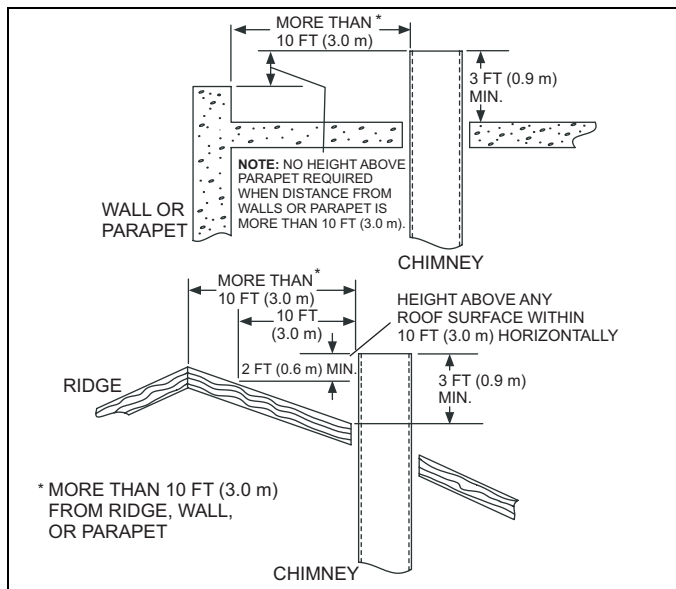

FIGURE 19: Vent Termination more than 10 ft. (3.0 m)
3. The chimney must extend at least 3 ft (0.91 cm) above the highest point where it passes through a roof of a building and at least two feet higher than any portion of the building with a horizontal distance of ten feet. See Figures 19, 20, and 21.